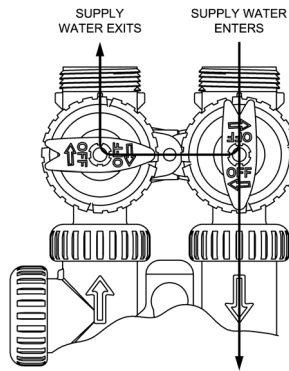

Figure 19
- 3. Diagnostic Position:** The inlet handle points in the direction of flow and the outlet handle points to the center of bypass valve, system water pressure is allowed to the control valve and the plumbing system while not allowing water to exit from the control valve to the plumbing. (See Figure 19)